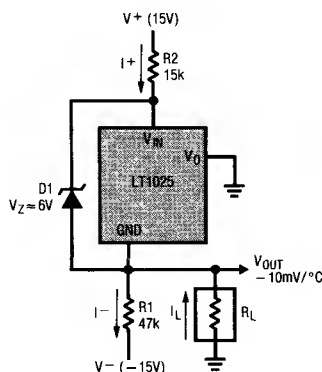

Figure 3
The LT1025 can be made to "stand on its head" to achieve a minus 10mV/°C output point. This is done as shown in Figure 3. The normal output (VO) is grounded and feedback is established between the ground pin and the positive supply pin by feeding both of them with currents while coupling them with a 6V zener. The ground pin will now be forced by feedback to generate -10mV/°C as long as the grounded output is supplying a net "source" current into ground. This condition is satisfied by selecting R1 such that the current through R1 (I-) is more than the sum of the LT1025 supply current, the maximum load current (IL), and the minimum zener current (≈ 50μA). R2 is then selected to supply more current than I-.